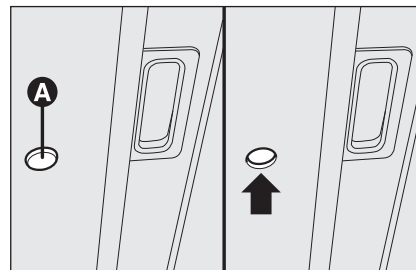

fig. 69
- ☐ insert the key into hole **A**-fig. 69 and turn it: